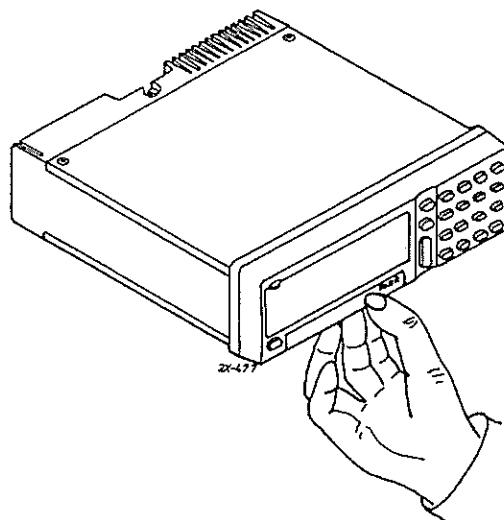

Figure 1.
1. Remove the front panel of the control unit (Fig.1)